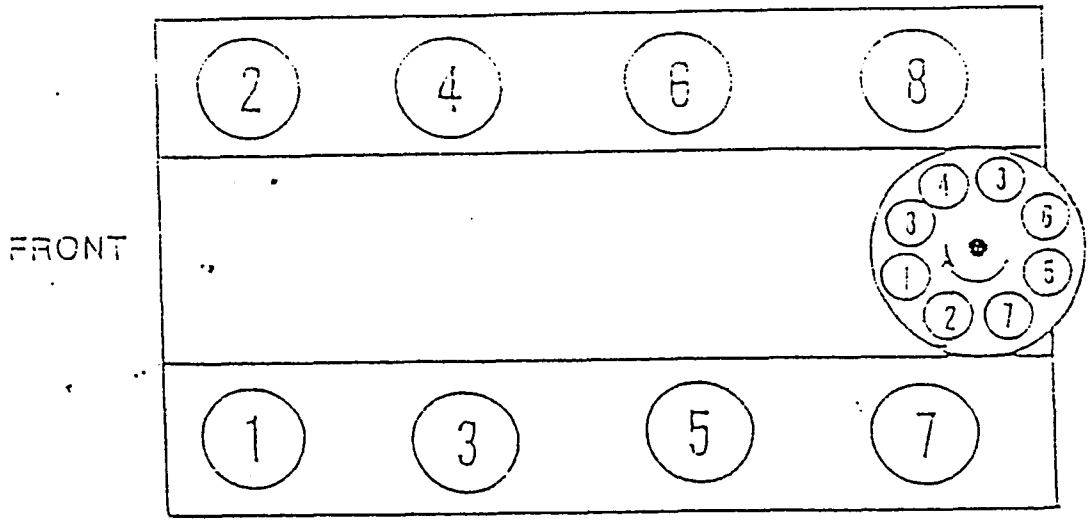

Figure 2 — 262-400 c.i.d. Chevrolet — turn distributor counterclockwise to advance timing
- B. Re-install the distributor and any other electrical connections as per original equipment specifications. See figure 2 for cylinder numbering and firing order.